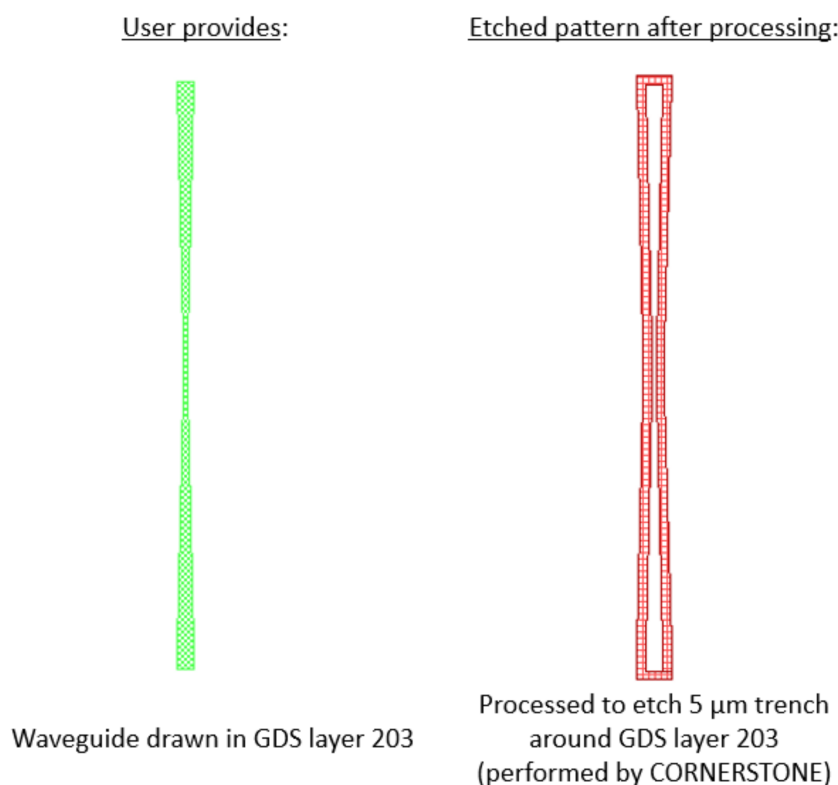

Figure 1: Description of GDS Layer 203 processing.
- Silicon Nitride Etch 1: 300 nm full etch to BOX – GDS Layer 203 (Light field): Drawn objects on this layer will be protected from the silicon nitride etch. Users should draw the waveguides and any other features to remain following the full silicon nitride etching. During fracturing processing, this will be translated into a pattern that defines 5 μm -wide trenches on either side of the waveguides drawn in GDS layer 203 (see Figure 1). If you require waveguide trenches that are a different